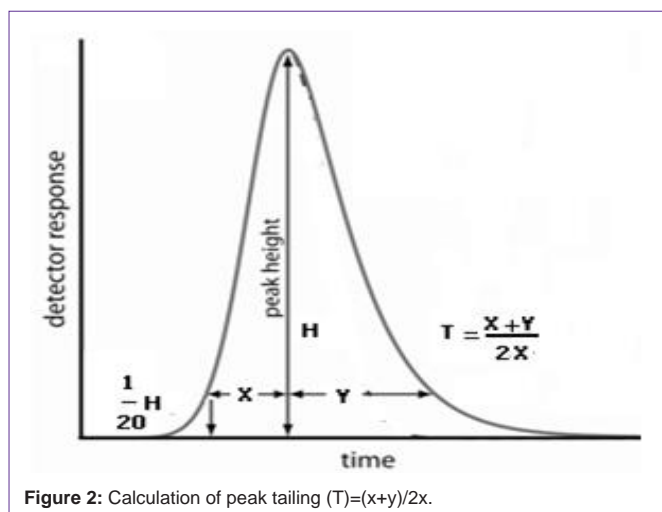

Figure 2: Calculation of peak tailing (T) = $(x+y)/2x$.
The Tailing Factor is defined by the USP as the distance from the front edge of the peak to the back edge, divided by the distance from the front edge to the centreline, with all distances measured at 5% of the maximum peak height (Figure 2). Peak Tailing (T) can be expressed as $T = (x+y)/2x$